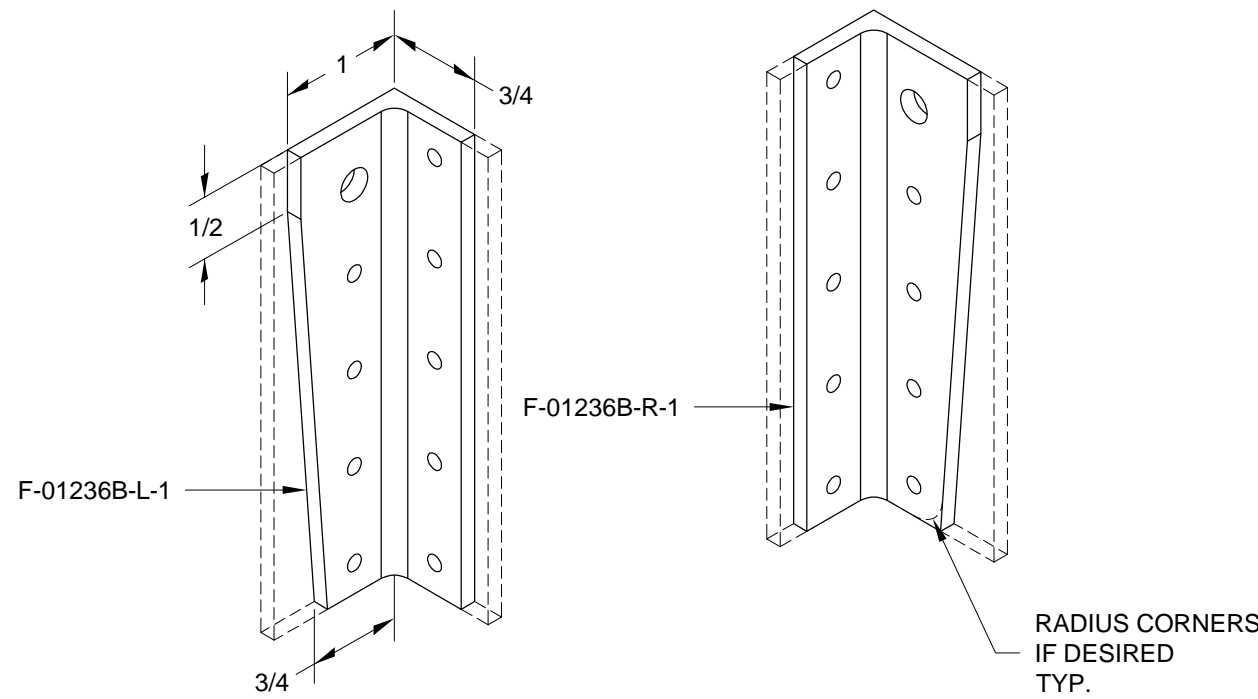

FIGURE 2: TRIMMING F-01236B-L-1 & -R-1
Step 2: Trim the flanges of F-01236B-L-1 & -R-1 as shown in Figure 2.